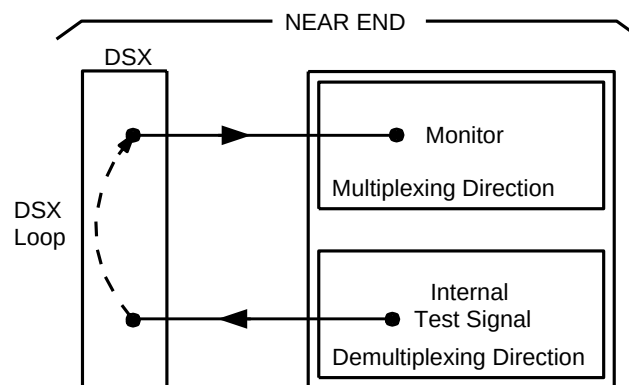

Figure 2. Transmission Test of DS3 Signal in DEMUX Direction
9. See Figure 2. At the near-end DSX-3 cross-connection associated with the DDM-2000 being tested, connect a patch cord from the **OUT** jack to the **IN** jack for the DS3 channel to be tested.